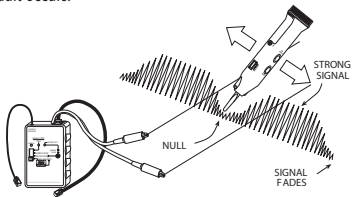

Figure 9
*It helps if the user performs a few experiments before trying to find the open. See Figure 9. Attach a few pieces of wire (any kind) more than several feet long to each clip of the FOX 2. Lay the wires out on a non-conducting surface (a wood floor with no metal in the vicinity..... nails are OK, but make sure there's no metal furnace duct below the floor) parallel to each other, about 4 " apart. Using the HOUND 3, trace along one of the wires, in normal fashion, noting how the tracer tone becomes stronger as the wire is approached. Now trace along the other wire, noting that it behaves just*